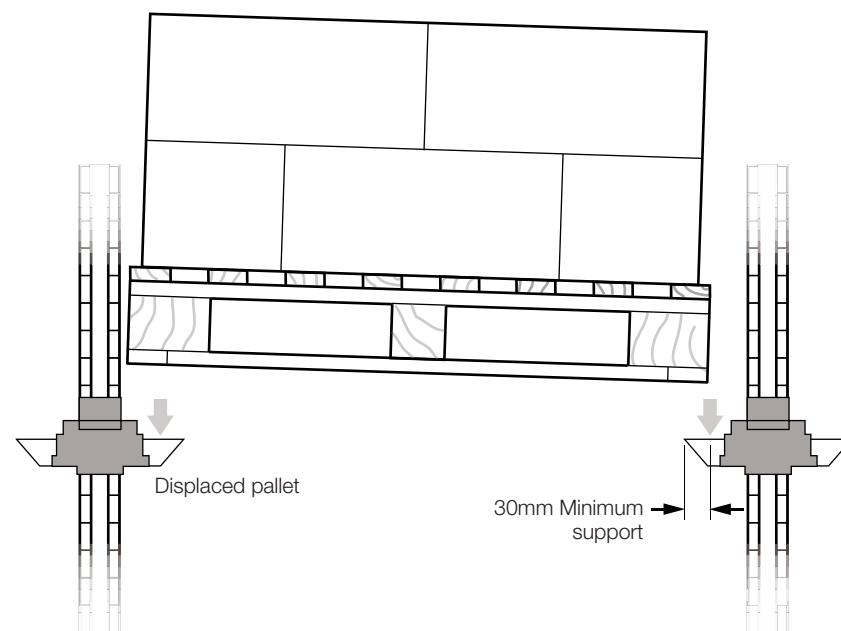

Figure 1 Storage of pallets in racking. The span between the vertical beams of the drive-in-racking must be compatible with the design of pallet
- The dimension span between vertical beams of the drive-in-racking, as this must be compatible with the design of the pallet. Pallet support beams must be wide enough to support a pallet positioned off-centre and close to one side of the rack opening. See Figure 1 (on page 5) for details
The use of pallets with racking (see Figure 1) can reduce the compression hazard to the load, but can cause additional stresses on the pallet. Loaded pallets should not be stored in racking unless they are suitably designed and constructed for the type of racking concerned.